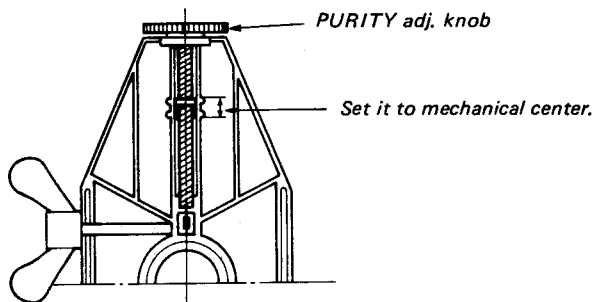

Fig. 5-1.
4. Set the PURITY adjusting knob to its mechanical center. (See Fig. 5-1.)